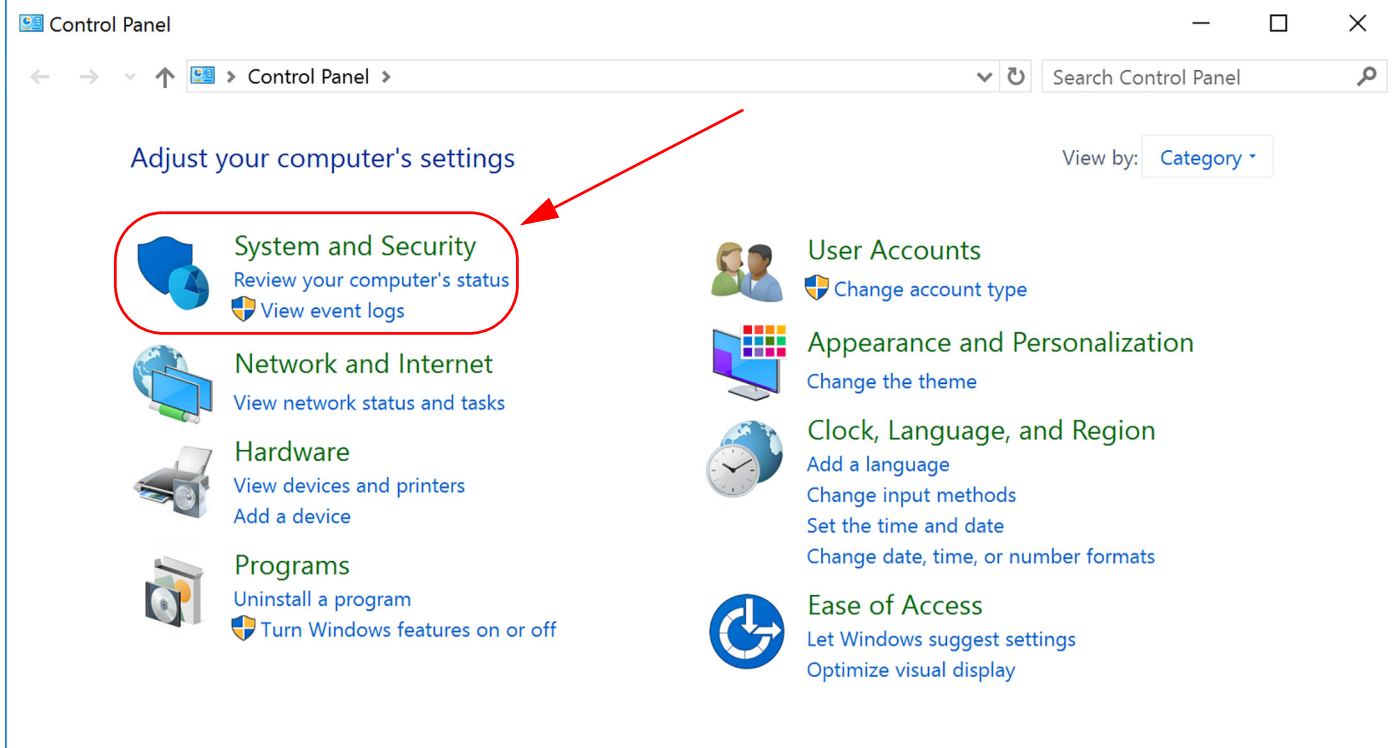

Figure 2.2: Windows Server 2016/2019: Control Panel -> System and Security Screen
2. From the Control Panel, select the “Systems and Security” screen. See Figure 2.2.